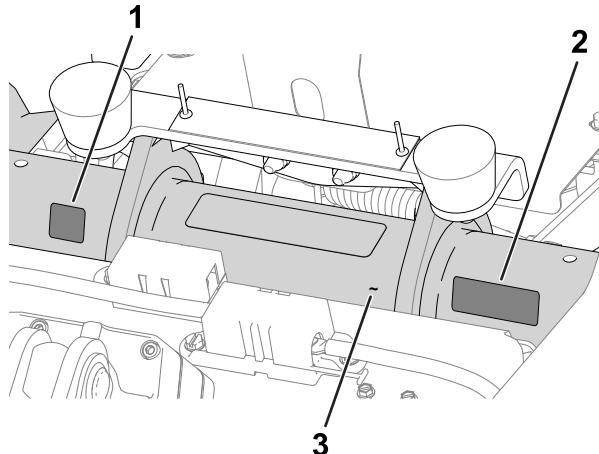

Figure 11
- **Production year decal and CE/UKCA decal:** apply the decals on the frame tube below the seat and serial plate; refer to Figure 11.